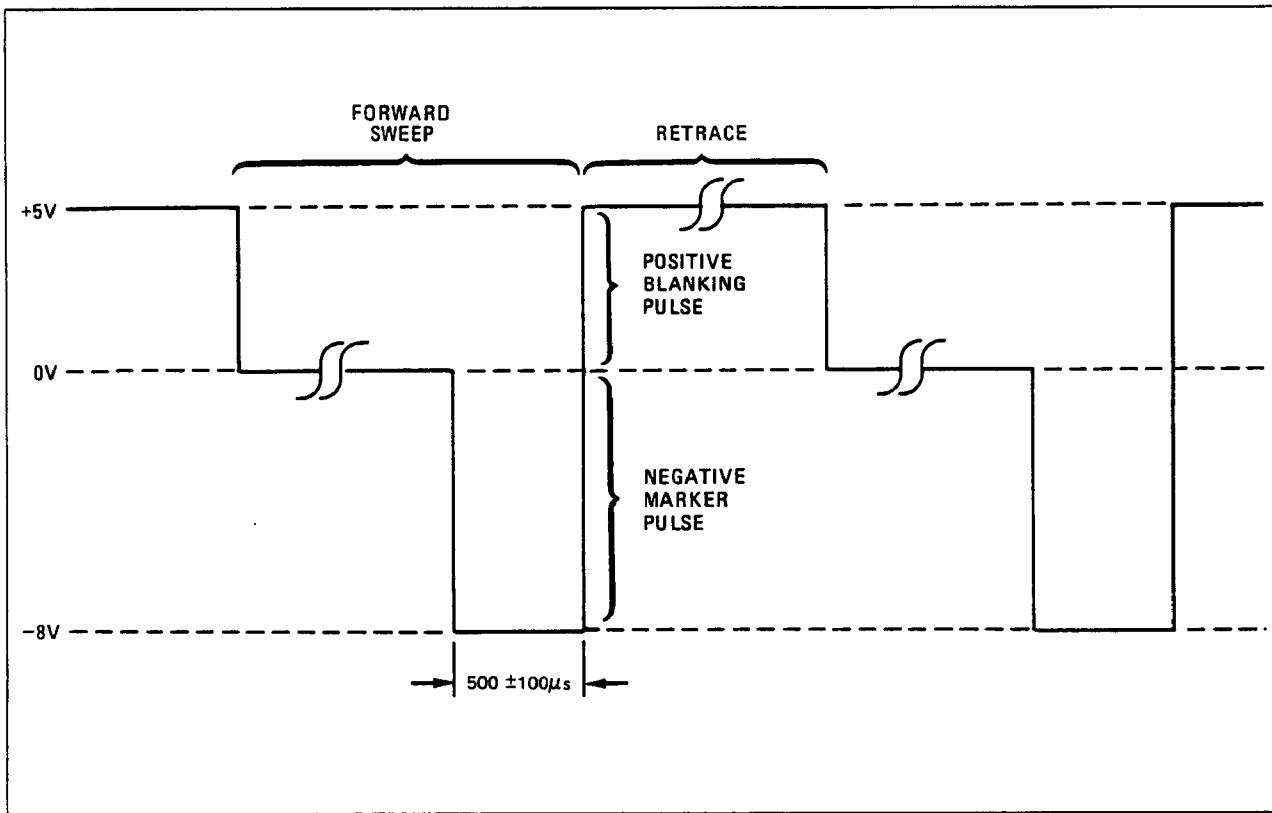

Figure 5-17. Marker DAC Adjustment Waveform
10. Adjust A4R28 so the pulse width is  $500 \pm 100 \mu\text{s}$  (5 divisions  $\pm$  1 division on oscilloscope). Refer to Figure 5-17.